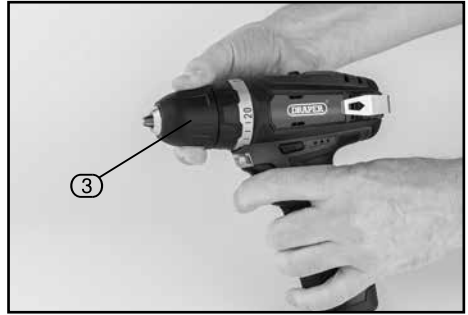

FIG. 3
9.2 INSTALLING AND REMOVING BITS – FIG. 3